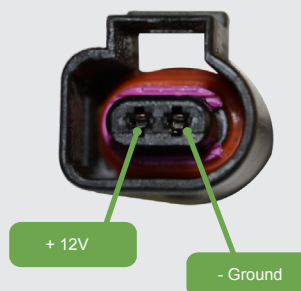

Fig. 2
- 3 Apply +12V to pin 1 at the connector "B" and the ground to pin 2 (See fig. 2) at the connector "B". Listen to the pump, it should operate quietly with a gentle hum. Bad pump will either not operate at all or it will be very slow. Watch for excessive arcing when applying the power. Replace the pump if any of the symptoms above are present.